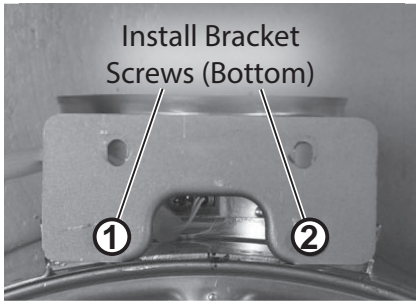

Figure 146 - Heat exchanger install bracket
- 48** Locate the two (2) bottom screws securing install bracket to old heat exchanger as shown in Figure 146. Remove screws and install bracket from old heat exchanger. Secure install bracket to the new heat exchanger with the two (2) bottom screws.